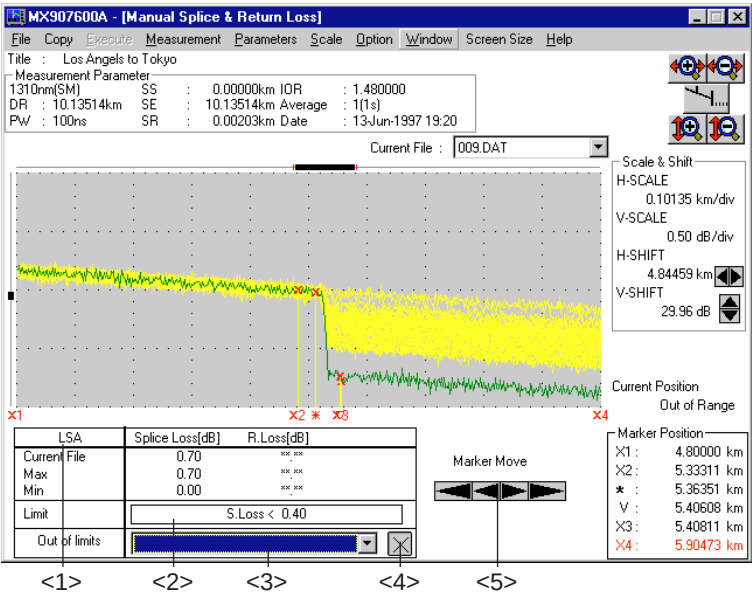

Fig. 3-14 Multi Fiber Measurement Window (Manual Window)
6. Set the six markers around the splice point as shown in Fig. 3-14
The example is shown in Fig. 3-14.